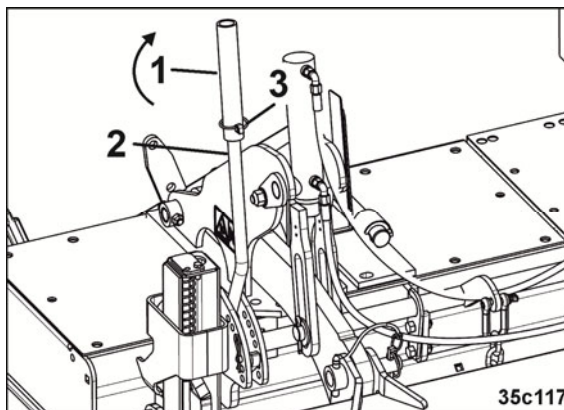

Fig. 90
1. Attach the extension pipe (Fig. 90/1) to the lever (Fig. 90/2) in reversed position and secure it using the linch pin (Fig. 90/3).
2. Raise the levelling board (Fig. 90/6) to the desired height.
3. Hold the levelling board in place using the pin (Fig. 90/5) and secure the pin using the spring cotter pin.